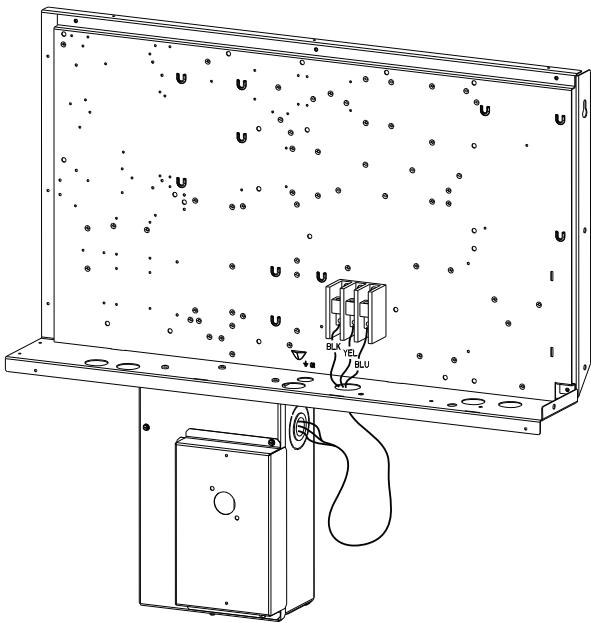

Fig. 65 — Location of Non-Fused Disconnect Enclosure (Size 16)
The factory-installed option disconnect switch is located in a weatherproof enclosure located under the main control box (see Fig. 65). The manual switch handle is accessible through an opening in the access panel. Discard the factory test leads (see Fig. 63 on page 43). The factory disconnect is an 80A disconnect.
1. Remove the Control Box access panel. The NFD enclosure is located below the Control Box (see Fig. 65).